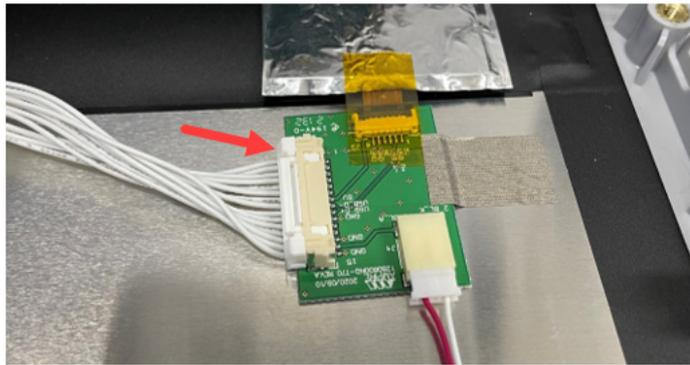

Figure 4-13. Disconnecting Keypad Cable Connector
10. Carefully tilt the Main PCB/SPA PCB assembly to remove the keypad cable connector by slightly pressing it at the ends and disconnecting it from the LCD top case assembly. See Figure 4-13.